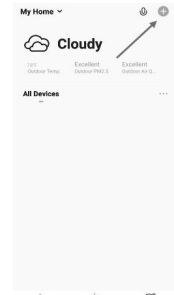

Fig. 1
- Confirm that your phone is connected to Wi-Fi (2.4GHz networks only, 5GHz will not work). Tap the “+” at the top-right corner of the homepage, to enter the device selection page. (Fig. 1)